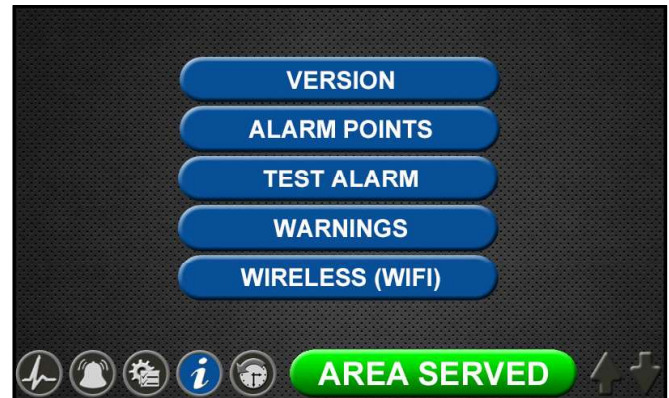

Figure 205: Wireless Ethernet Screen
- To add the WIFI settings to the INFORMATION screen, touch the ALLOW WIFI CONTROL / ON tab. The INFORMATION screen will now display a WIFI tab (Figure 205).